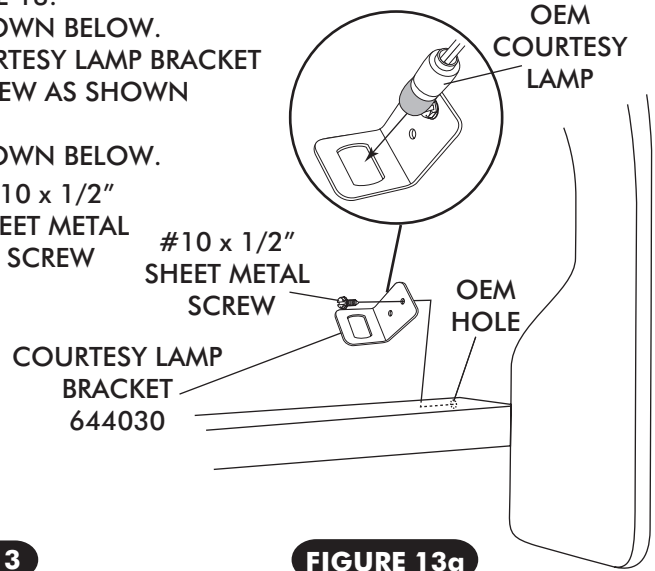

FIGURE 13a
- USING OEM HOLE, SECURE PASSENGER SIDE COURTESY LAMP BRACKET UNDER DASH USING #10 x 1/2" SHEET METAL SCREW AS SHOWN BELOW IN FIGURE 13a.